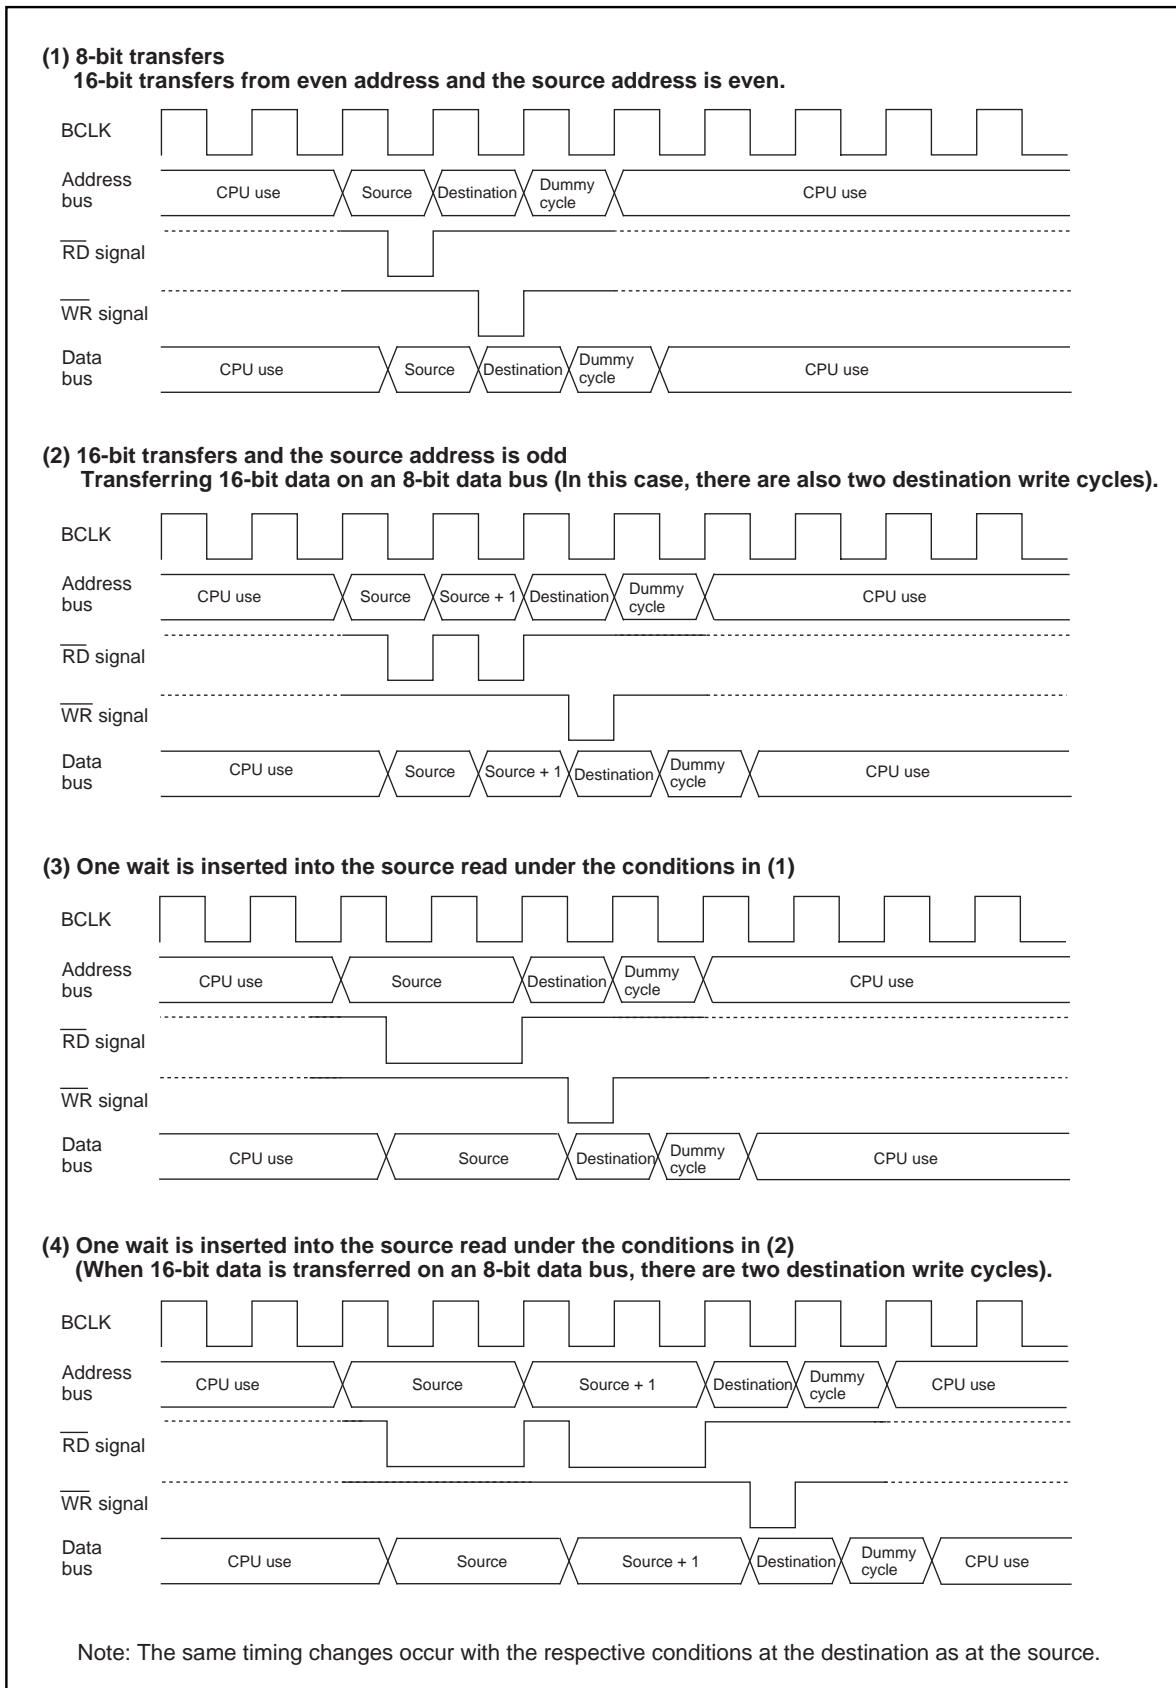

Figure 1.15.4. Example of the transfer cycles for a source read
Figure 1.15.4 shows the example of the transfer cycles for a source read. For convenience, the destination write cycle is shown as one cycle and the source read cycles for the different conditions are shown. In reality, the destination write cycle is subject to the same conditions as the source read cycle, with the transfer cycle changing accordingly. When calculating the transfer cycle, remember to apply the respective conditions to both the destination write cycle and the source read cycle. For example (2) in Figure 36, if data is being transferred in 16-bit units on an 8-bit bus, two bus cycles are required for both the source read cycle and the destination write cycle.